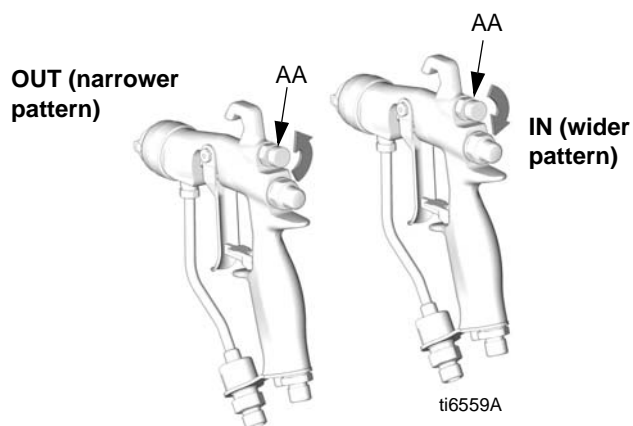

FIG. 4. Pattern Air Knob
1. See FIG. 4. Close off pattern adjustment air by turning knob (AA) clockwise (in) all the way. This sets gun for its widest pattern.
3. See FIG. 4. For narrower pattern, turn pattern adjustment valve knob (AA) counterclockwise (out). If pattern is still not narrow enough, increase air pressure to gun slightly or use different size tip.